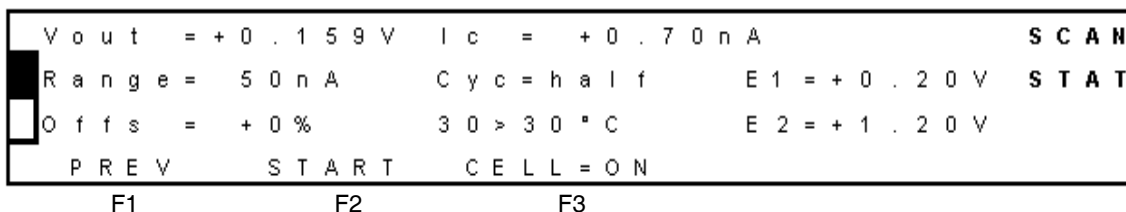

Figure 3-60 Scan Stat Screen
3. Select **F5 NEXT**. The Scan Stat screen appears (Figure 3-60, with 10 V full scale).